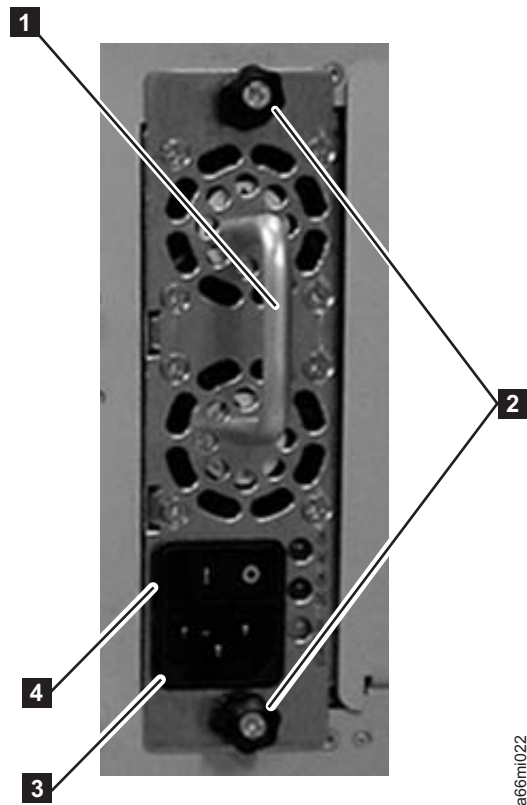

Figure 12-20. Power Supply
**Attention:** First, disconnect the power cord from the power source. Then, disconnect the power cord from the power supply receptacle (**3** in Figure 12-20).
3. Loosen the two thumb screws (**2** in Figure 12-20) by turning them counterclockwise.
4. Grasp the handle (**1** in Figure 12-20) and slowly pull the power supply toward you, while supporting it from underneath.
2. Grasp the power supply handle (**1** in Figure 12-20) while supporting it from underneath. Then, line up the power supply with the guides in the slot, and carefully push the power supply into the library.
3. Tighten the two thumb screws (**2** in Figure 12-20) on the power supply by turning them clockwise.
**Attention:** First, connect the power cord to the power supply component ( **3** in Figure 12-20 on page 12-25). Then, connect the power cord to the power source.
5. Toggle the power switch ( **4** in Figure 12-20 on page 12-25) on the power supply to the I (ON) position.
2. Toggle the redundant power supply power switch ( **4** in Figure 12-20 on page 12-25) to the O (OFF) position.
3. Unplug the power cord from the redundant power supply receptacle ( **3** in Figure 12-20 on page 12-25).
4. Loosen the two thumb screws ( **2** in Figure 12-20 on page 12-25) by turning them counterclockwise.
5. Grasp the handle ( **1** in Figure 12-20 on page 12-25) and pull the power supply toward you. Support the component from underneath with your other hand.
3. Insert the redundant power supply by gripping the handle ( **1** in Figure 12-20 on page 12-25), sliding it into the guide slots, and pushing it into the empty slot.
4. Tighten the two thumb screws ( **2** in Figure 12-20 on page 12-25) that hold the redundant power supply in place.
5. Connect the power cord to the power supply ( **3** in Figure 12-20 on page 12-25) and to its source.
6. Turn on power to the redundant power supply, using the switch ( **4** in Figure 12-20 on page 12-25) on the power supply.